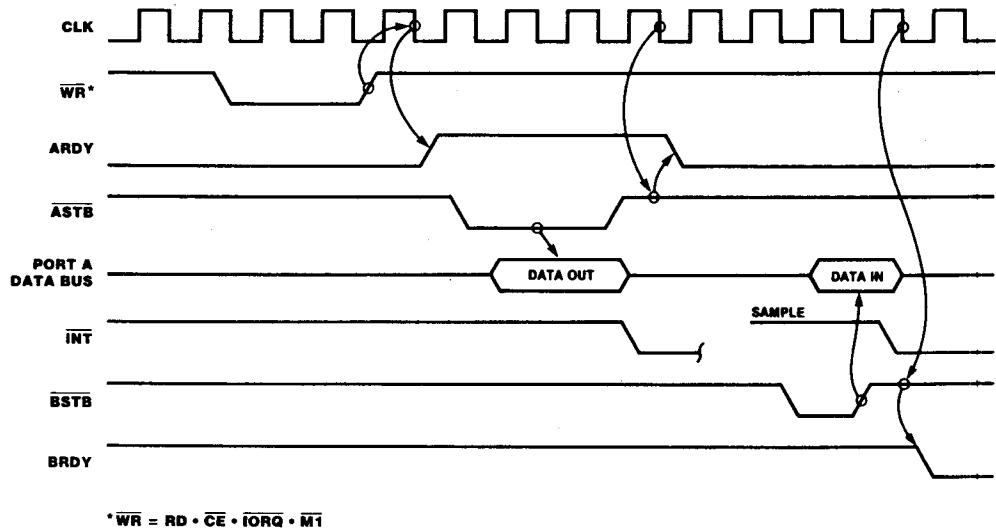

Figure 16. Mode 2 Bidirectional Timing
**Bidirectional Mode (Mode 2).** This is a combination of Modes 0 and 1 using all four handshake lines and the eight Port A I/O lines (Figure 16). Port B must be set to the bit mode and its inputs must be masked. The Port A handshake lines are used for output control and the Port B lines are used for input control. If interrupts occur, Port A's vector will be used during port output and Port B's will be used during port input. Data is allowed out onto the Port A bus only when ASTB is Low. The rising edge of this strobe can be used to latch the data into the peripheral.